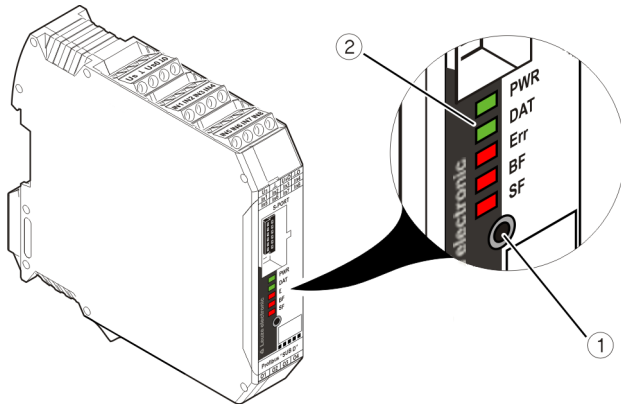

Figure 2 Controls and indicators
1. Press the button 1 (see Figure 2 on page 3) on the MSI-FB-PB100 for approx. 3 seconds (until PWR LED blinks with 2 Hz).
2. The LEDs (see Figure 2 on page 3) on the MSI-FB-PB100 show the current PROFIBUS address (preset value: 4).
1. Press the button (see Figure 2 on page 3) on the MSI-FB-PB100 for approx. 12 seconds (until PWR LED blinks with 4 Hz).